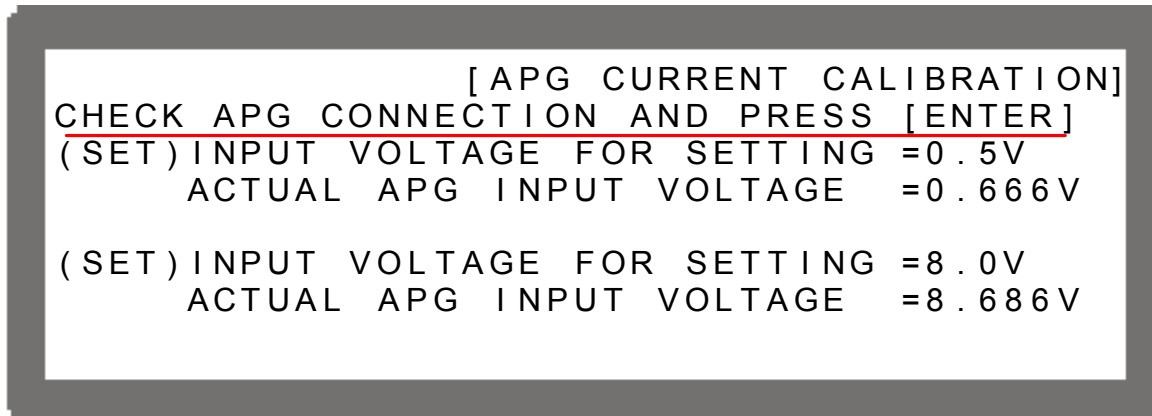

Figure 3-123
2. Press "ENTER" (↵) to confirm entering into APG Voltage Calibration options as Figure 3-123 shows.